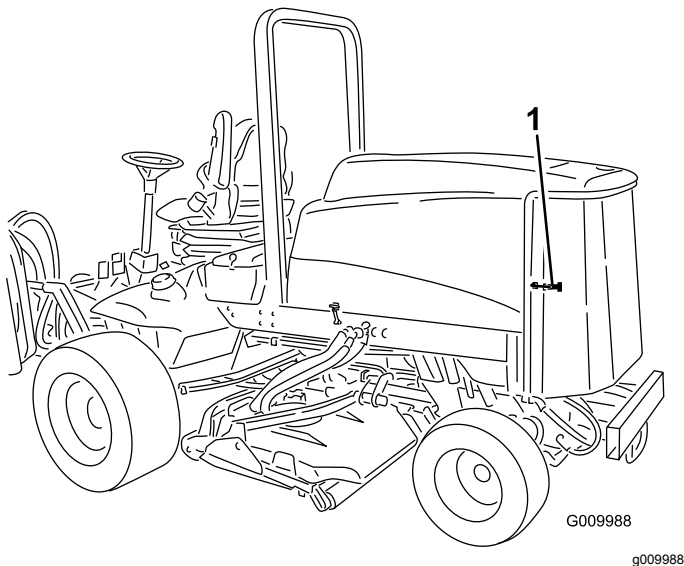

Figure 51
1. Unlatch and swing open rear screen (Figure 51). Clean the screen thoroughly of all debris.